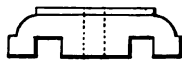

Fig. 35.—Double Cleat or Moulding.
*Porcelain Cleats.*—These are useful for internal or room wiring and in turning corners. Fig. 35 represents the form in which the double-wire pattern is made.